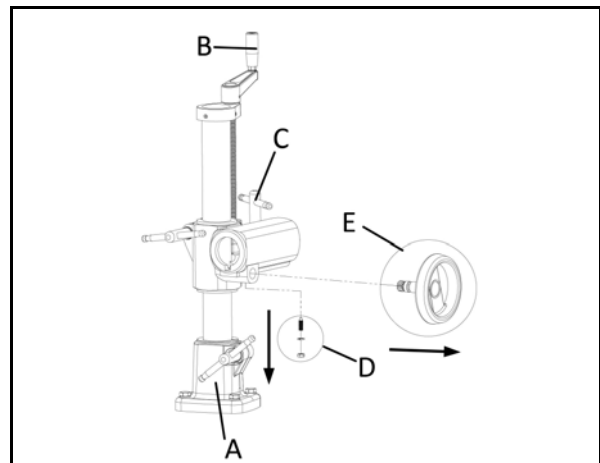

Fig. 6: Fitting the tripod
Step 1: Fasten the tripod to the machine with the 4 M12 screws (Fig 6 A).
Step 2: Mount the handle (Pos. B, Fig. 6).
Step 3: Loosen C and D (Fig. 6) and remove handwheel (Pos. E, Fig. 6).